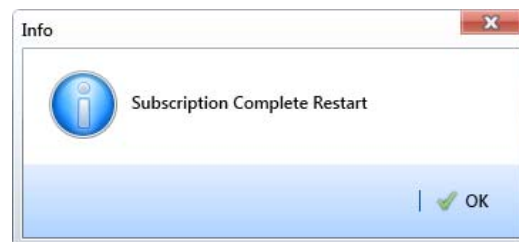

Figure 15-7. Subscription Complete Restart
- 6 Click  **OK** when the message *Subscription Complete Restart* displays (Figure 15-7).